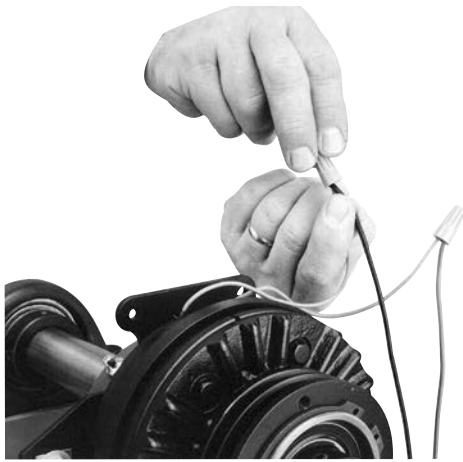

Figure 7
8. When using a Warner Electric tension control, follow the connection diagram supplied with the control. (See Figure 7)